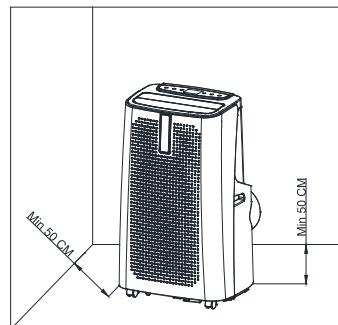

Fig. 5
- 1) Move the machine with installed heat pipe and fittings before the window, and the distance between the body and walls or other objects shall be least 50 cm (as shown in Fig.5).